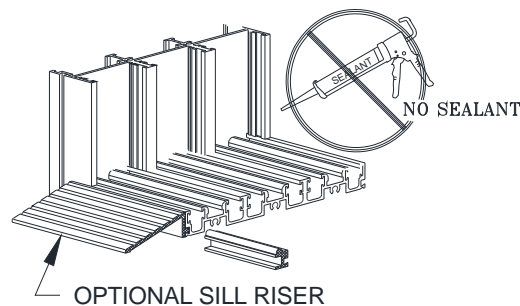

Figure 12:
7. If sill riser (optional) is included, insert riser tab into sill pocket and slide together (Figure 12).